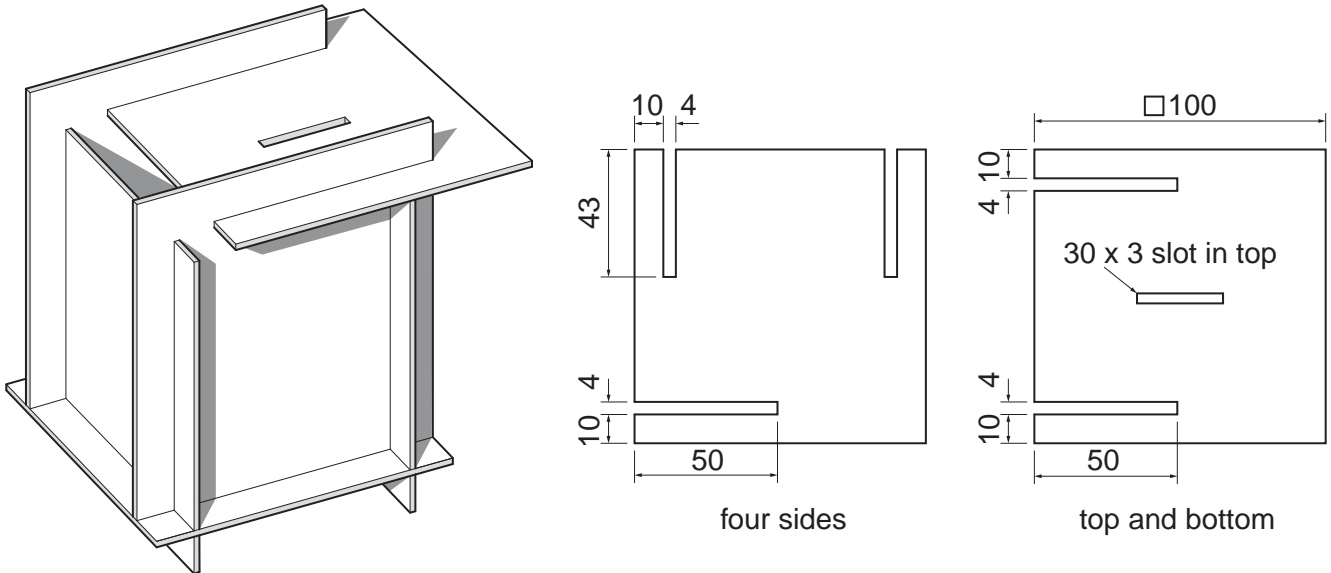

Fig. 1
- 1 Fig. 1 shows a money box which is to be made in a school workshop.